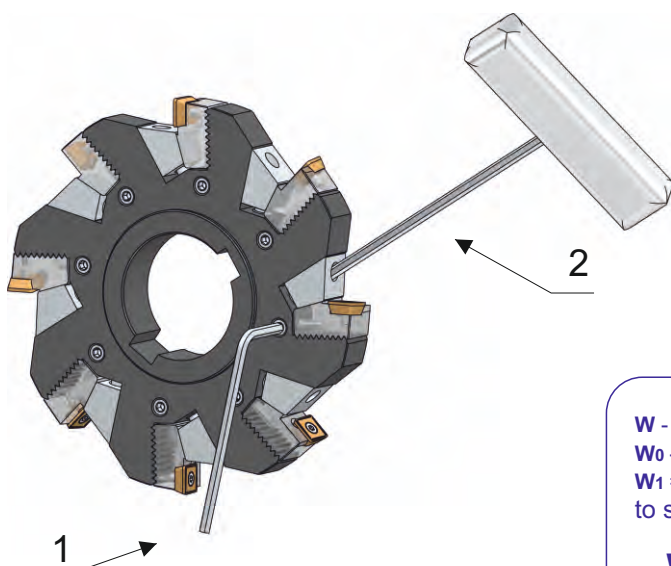
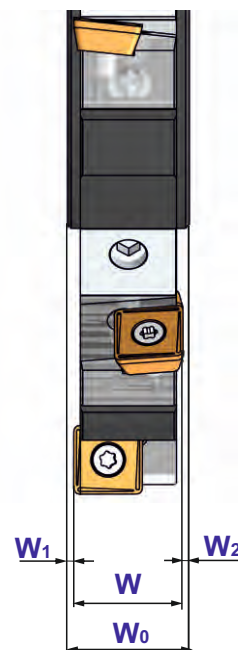

Figure 2.
Figure 3.
Setting the positions of cartridges in order to obtain required milling width W - Figure 2 and Figure 3.
- I. Loosen the key screw with wrench (2), then shift the cartridge with wrench (1) by rotating the adjustment screw in order to obtain the cartridge position close to the adjusted dimension.
- II. Now tighten the key screw and make checking measure of setting the blade (dimensions W_1 , W_2 in Figure 3).